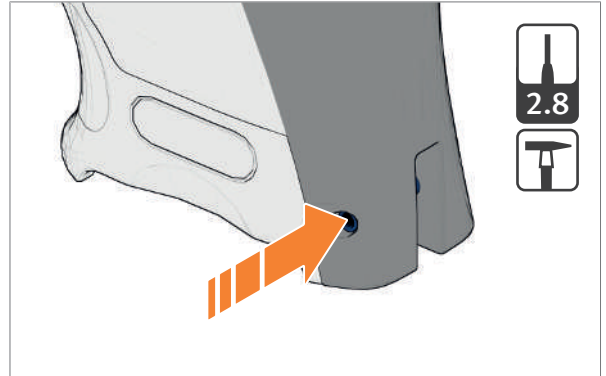

Fig. 27: Driving out clamping sleeve for back strap
1. Driving out clamping sleeve for back strap (Fig. 27).